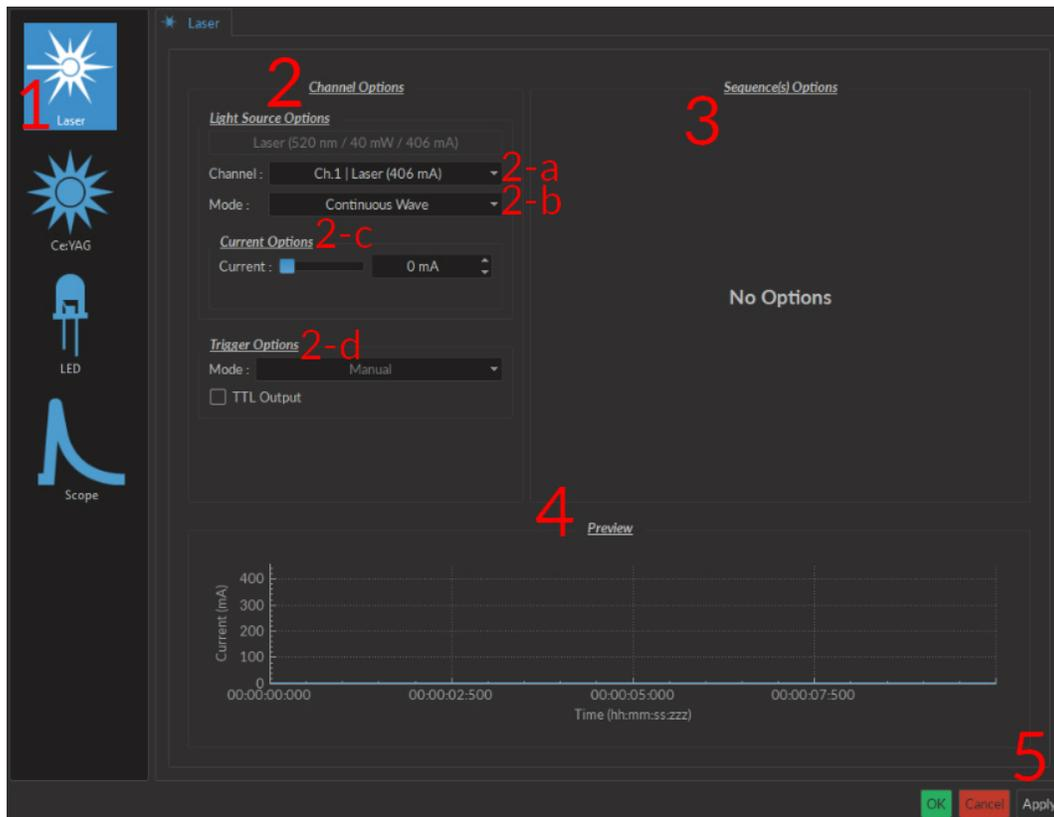

Figure 4.2: Light Source Channel Configuration Window
channels when the driver is connected to the Doric Neuroscience Studio. These function are used through the **Channel Configuration** window (Fig. 4.2).
1. The **Channel Types** (Fig. 4.2) are displayed on the left side of the window. These include **Laser** light sources, **Ce:YAG** light sources and **LED** light sources, as well as the **Scope** to measure signal using the driver.
2. The **Channel Options** box (Fig. 4.2) includes **Light Source Options** and **Trigger Options** for the given channel.
- a) The **Channel** (Fig. 4.2) drop-down list identifies which driver channel is currently being edited, assuming a driver with multiple channels.
- b) The **Mode** (Fig. 4.2) drop-down list includes each possible driver mode. These are used to control the pulse sequences emitted by the light source. The options related to this mode are detailed with the **Sequence Options**.
- c) The **Current Options** (Fig. 4.2) includes the slider used to control the current sent to the light source.
- d) The **Trigger Options** (Fig. 4.2) allow the selection of a number of trigger modes to activate a pulse sequence.
3. The **Sequence options** box (Fig. 4.2) is where sequence options are defined depending on the mode. The **Continuous wave**, **External TTL** and **External Analog** modes have no additional sequence options.
- The **Preview** box (Fig. 4.2) displays a preview of the chosen sequence while in the **Continuous Wave**, **Square Sequences** and **Complex Sequences** mode.
- The **Apply** button (Fig. 4.2) will generate the defined channel OR update an already configured channel with any changes.